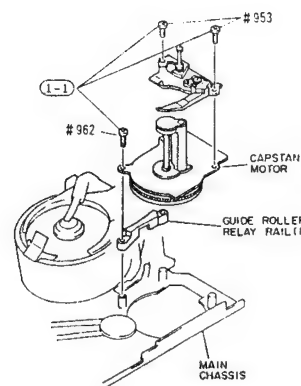

Fig. 2-64
- 1) Remove three (3) screws holding the capstan motor. (See Fig. 2-64)
(2) Guide Roller Relay Rail (1)
- 3) Pull out guide roller relay rail (1) from the main chassis. (See Fig. 2-64)